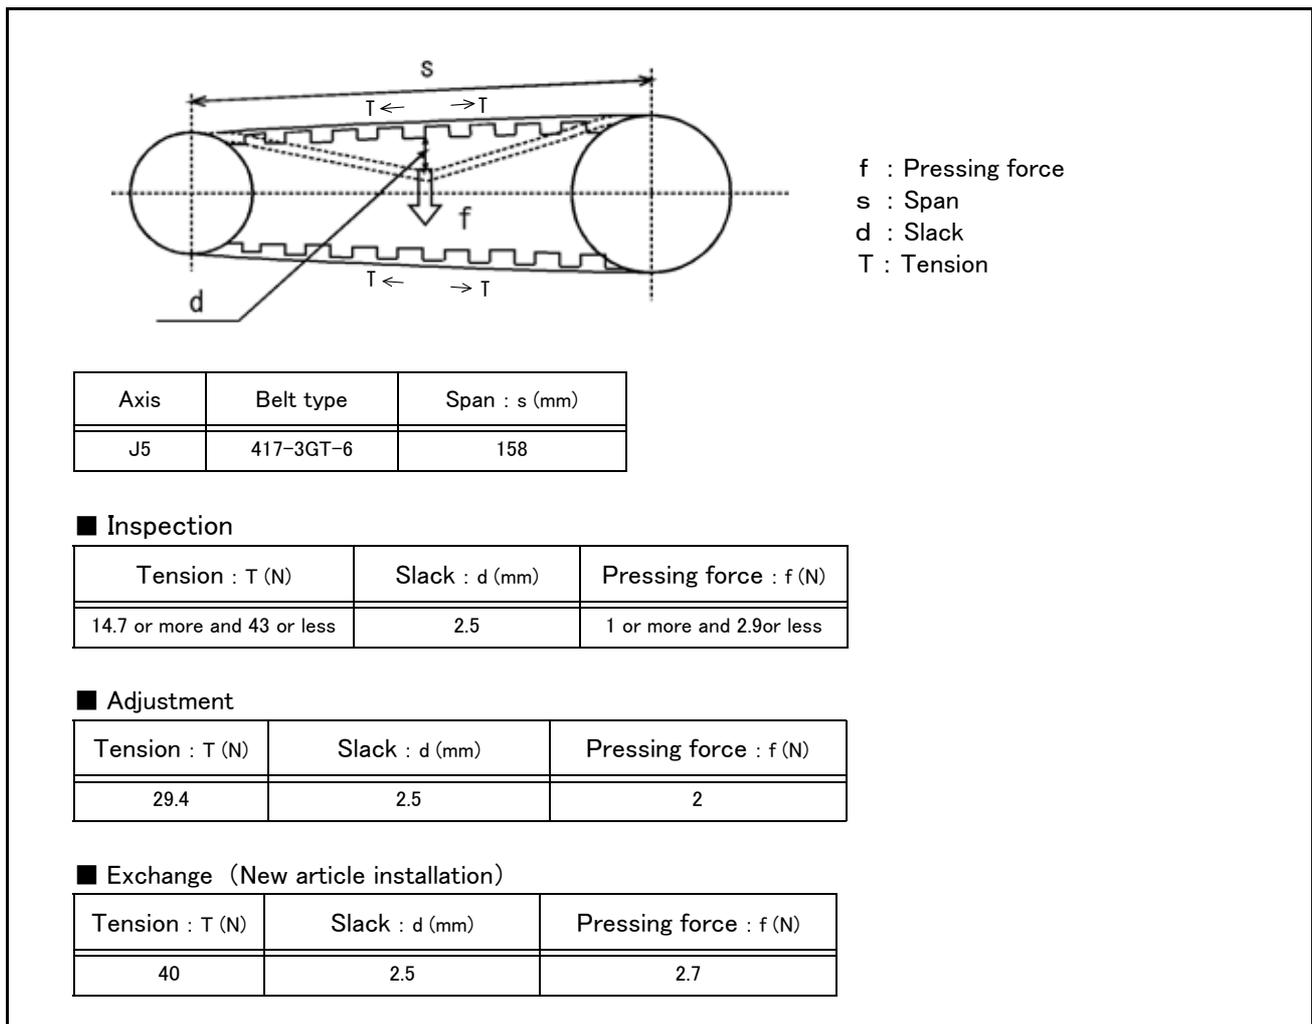

Fig.5-12 : Belt tension
- 4) Confirm that the belt tension is adjusted to slacken approx. 2.5mm when the center of the belt is lightly pressed with a finger (approx. 2N) as shown in "Fig.5-12 : Belt tension".
The detailed adjustment (tension) is shown in Fig. 5-12.